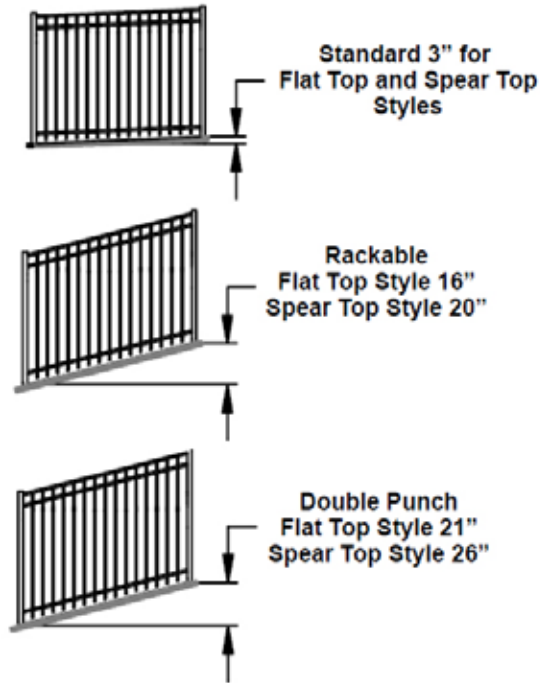

Fig. 4
6. Alumi-Guard offers three grades of rackability for its panels - Figure 4